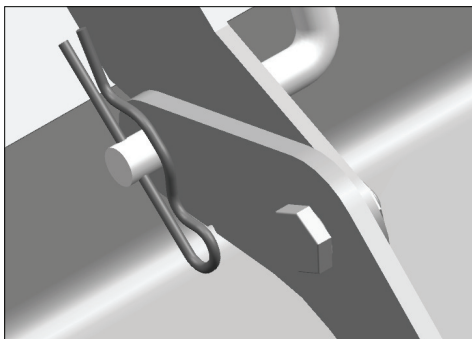

Figure 2
Step 3: Insert rod end into gate linkage and lock in place with hair pin clip as shown in (figure 2).